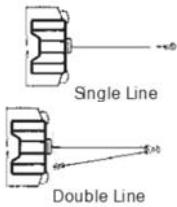

Figure 2
1. Maximum working load capacity is on the wire rope layer closest to the drum. DO NOT OVERLOAD. DO NOT ATTEMPT PROLONGED PULLS AT HEAVY LOADS. Overloads can damage the winch and/or the wire rope and create unsafe operating conditions. FOR LOADS OVER 1/2 RATED CAPACITY, WE RECOMMEND THE USE OF THE OPTIONAL PULLEY BLOCK TO DOUBLE LINE THE WIRE ROPE (Figure 2). This reduces the load on the winch and the strain on the wire rope by approximately 50%. Attach hook to load bearing part. The vehicle engine should be running during winch operation. If considerable winching is performed with the engine off, the battery may be too weak to restart the engine.